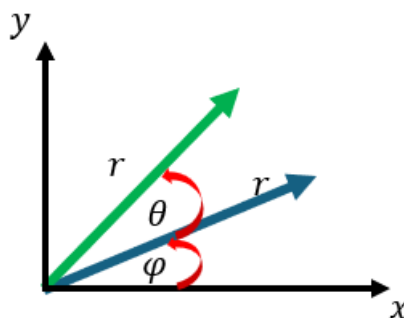

Fig.1
- 7) Calculate the rotation matrix (R) to rotate the blue arrow to the green arrow by an angle theta as shown below in Fig.1.